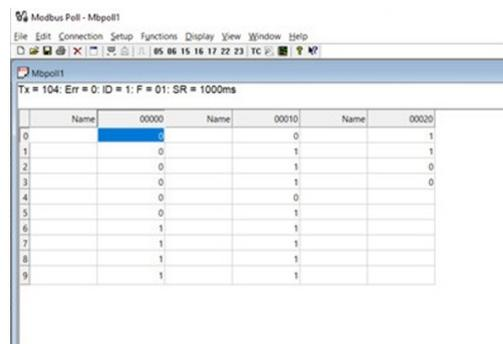

Figure 41.2.
- In the Modbus Poll main window (see Figure 41.2), coil 0x0000 is on the top left and has a value of 0, so Pulse 1 Power Comparator Enable is Off “0x00”. Further down that column you will see data for coils 0 through 9. Coil 10 starts on the next column and Coil 20 on the third column.